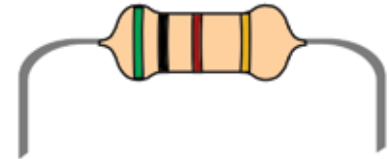

Figure 19: A 500 ohm resistor
- three penlight cells (AA) in holders,
- a 500 ohm resistor, with the colour bands exactly as in Figure 19, and